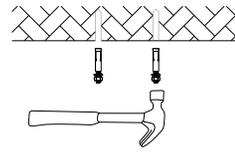

Figure 4
2. Fix screws into the holes with a hammer. (Figure 4)